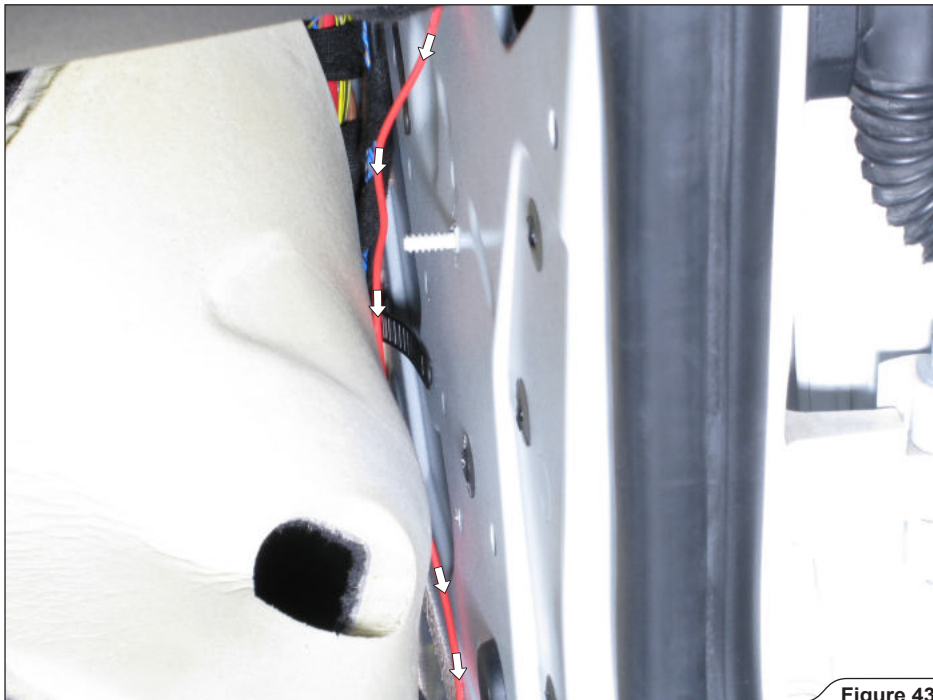

Figure 43
29. **For fuse box powered Wireless only:** direct and secure red transmitter wiring harness from the fuse box to the trunk (Figure 43, 44, 45, 46).